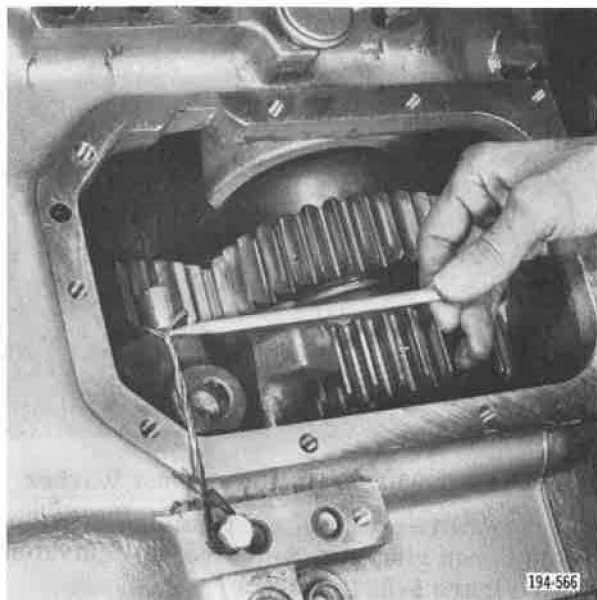

Figure 5-939. Wire Holding Shift Fork
30. Install a wire to hold the Direct/Hi-range shift fork from sliding forward. See Figure 5-939.